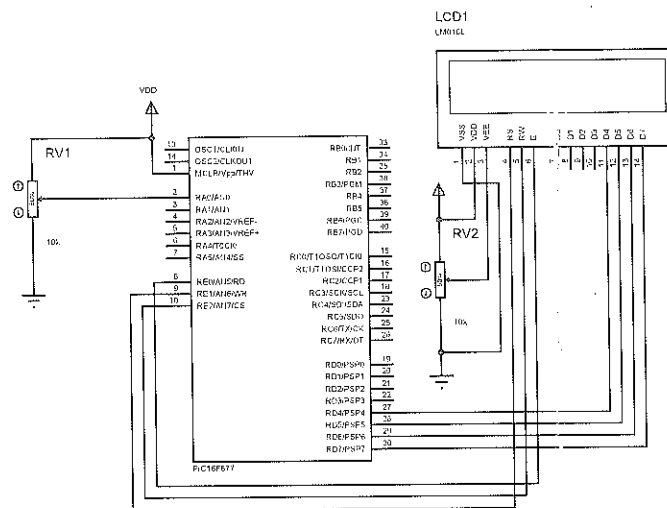

Figure 4: Schematic showing lcd and pot connection
- (a) The schematic diagram in Fig. 4 shows a variable resistor connected to pin A0 of PIC16F877 microcontroller. It also shows a 16 × 2 character LCD display connected to the digital pins of the microcontroller. Using a program the ADC of the microcontroller is configured to be 8-bits and range of analog voltage is set between 0V-5V. This program reads the analog value on pin A0 of the microcontroller and converts it into a digital value (int) and displays this value on the LCD.